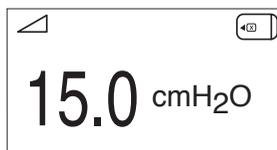

FIGURE 4-3 ACTIVE DISPLAY (WITH SMARTCARD)
3. Press the  button to turn on the airflow. The Active Display screen appears, shown in Figure 4-3.